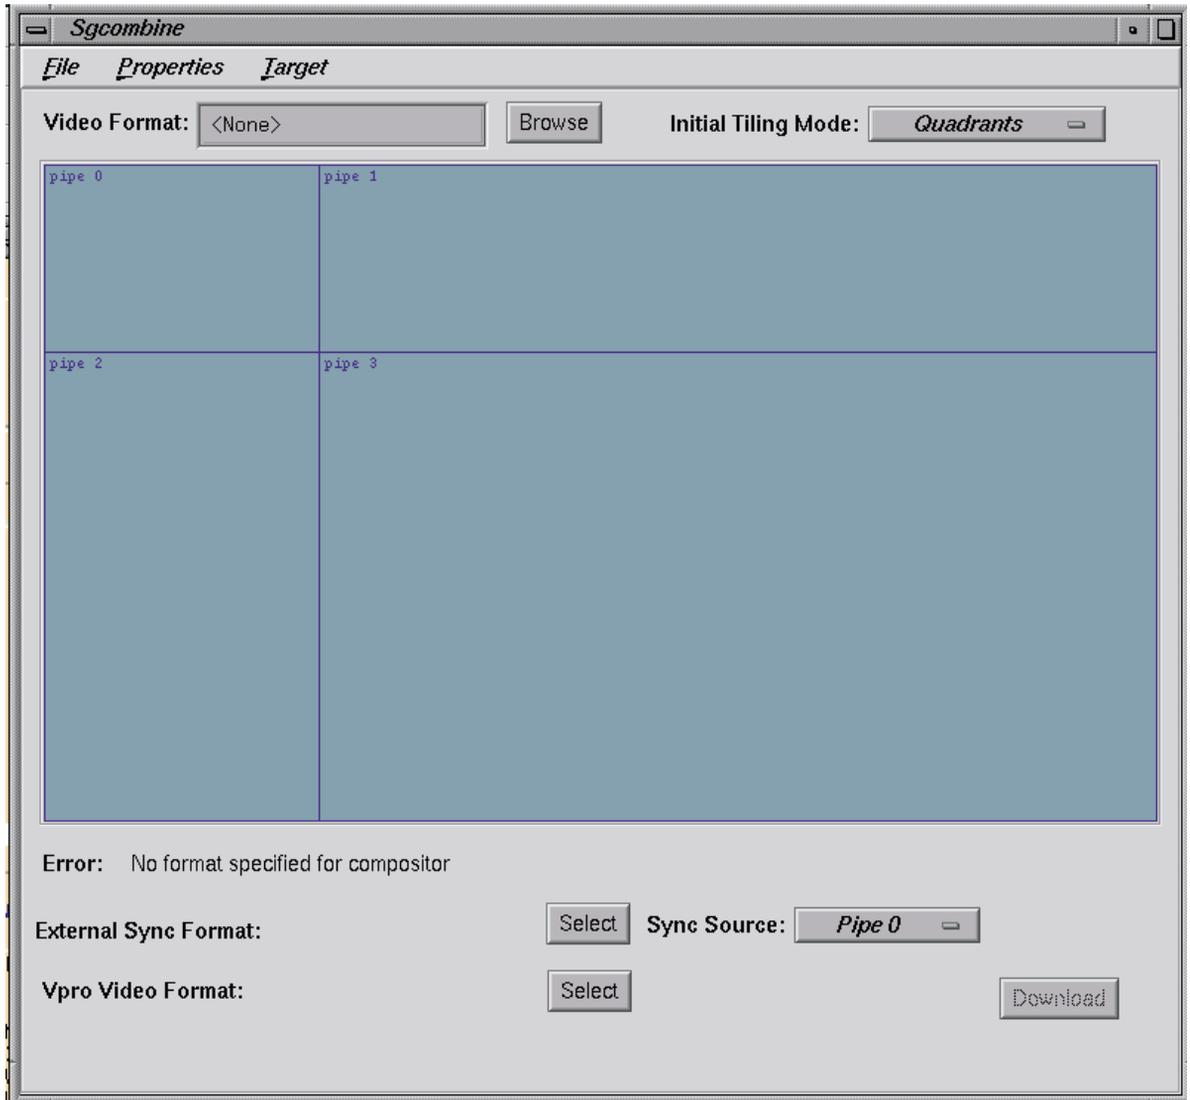

Figure 4-3 Example of Initial Tiling Mode (Quadrant)
- **Quadrants:** This selection divides the screen into four display areas. (This selection works only if you have inputs from four graphics pipes.) Each graphics pipe controls one quadrant of visual space that contributes to the whole display surface. Figure 4-3 shows an example of how the screen display can be divided with the **Quadrants** selection. Note that VPro graphics are being used in the example. Onyx4 (SG2) video format is adjusted in the same manner.